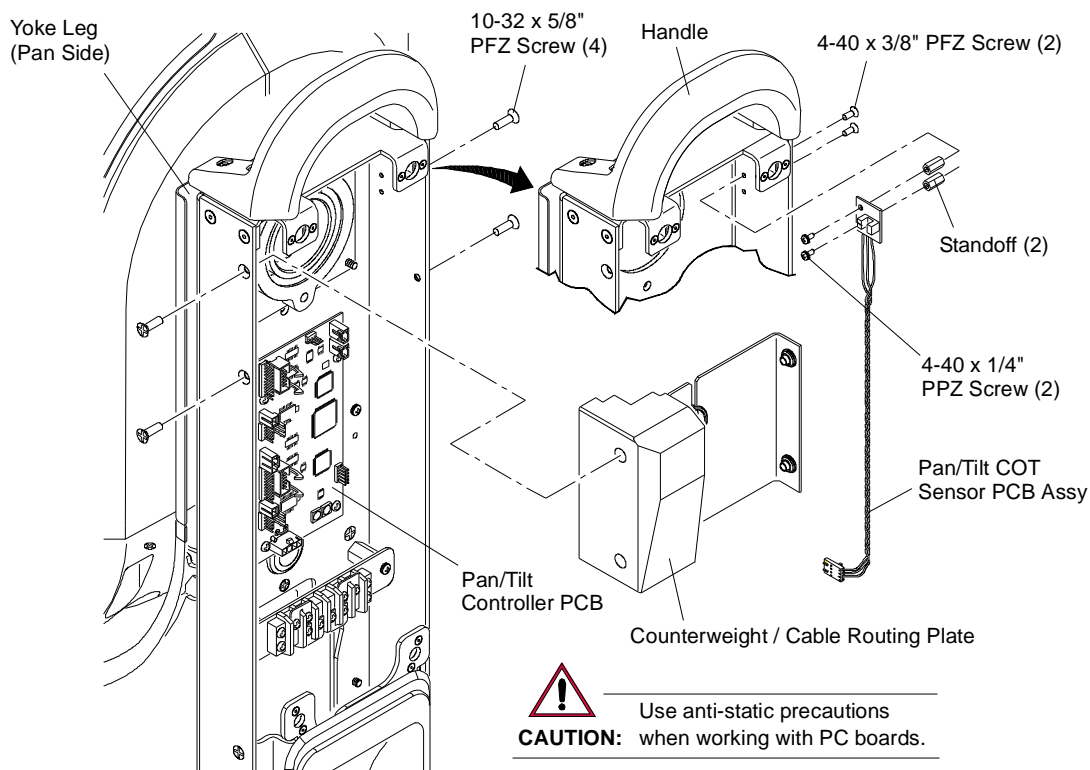

Figure 3-38: Removing Pan/Tilt COT Sensor PCB
- Step 3. Remove Cable Routing Plate by removing four 10-32 x 3/8" PFZ screws (**Figure 3-38**). Plate will remain attached by cabling, so just allow to it hang out of the way during this procedure.